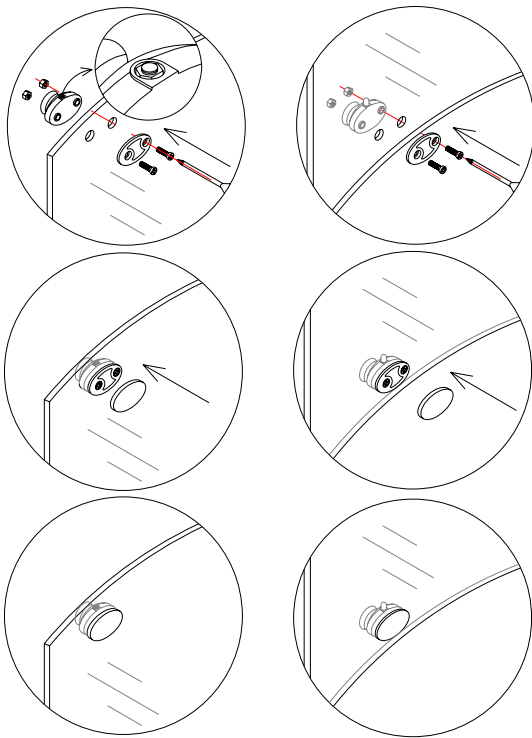

Fig 9
11. Your unit can be shipped to you with the wheel assemblies installed on the doors. If not, please refer to diagram (fig 9) how to install it. Attach the top and bottom wheels to the glass doors. The wheel that goes on the top has an adjustable screw and nut to adjust the door level. Note that the lock nut of upper wheel should face up. The bottom wheel has a press button to fix the wheel on the bottom guide rail; that button should face up (fig 9);